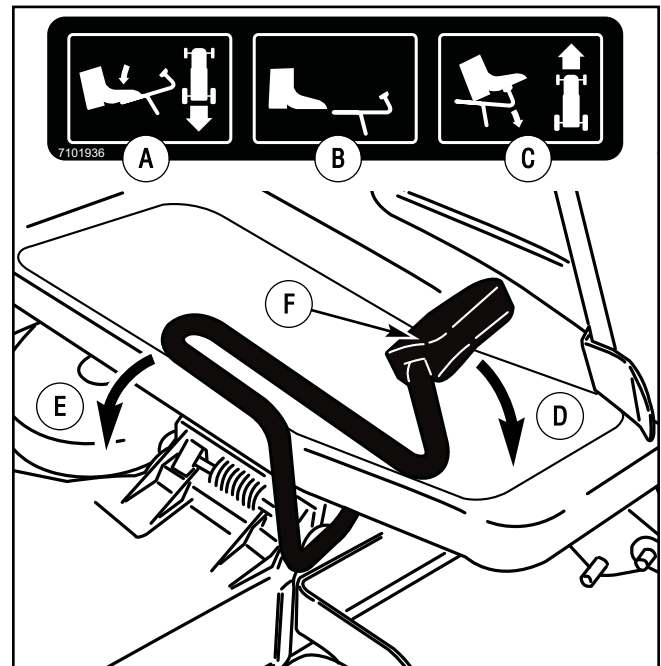

Figure 11: Speed control operation
4. Slowly push the **speed control pedal** forward to the desired speed (Figure 11).
1. Slowly push the **speed control pedal** forward to the desired speed (Figure 11).
1. Push the **speed control pedal** (Figure 11), OR